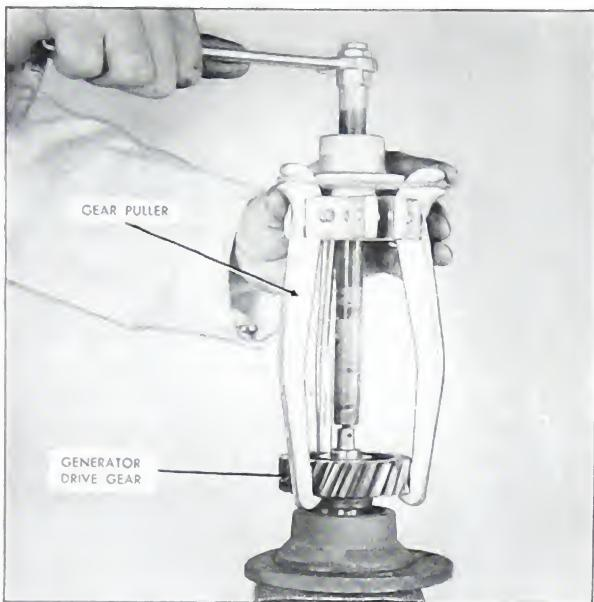

Fig. 9-1. Pulling generator drive gear from the bearing and cage.
3. Pull the gear from shaft or press it from the shaft using a set of parallels under the gear. (Fig. 9-1).